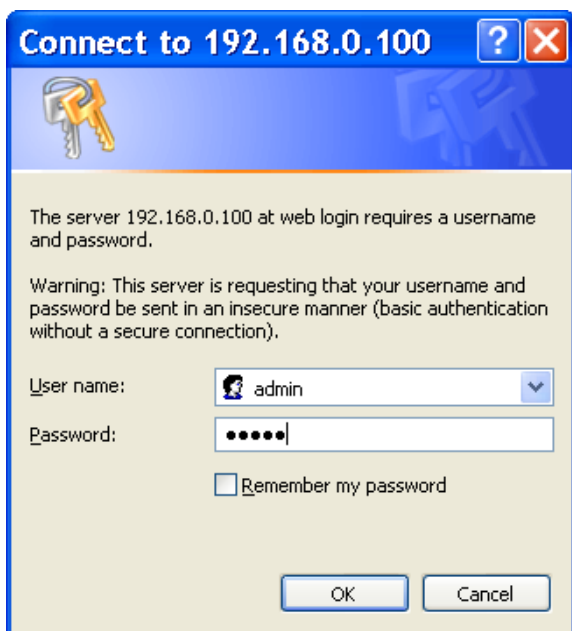

Figure 6-2: Login Screen
2. When the following dialog box appears, please enter the default user name “**admin**” and password “**admin**” (or the password you have changed via console). The login screen in Figure 6-2 appears.